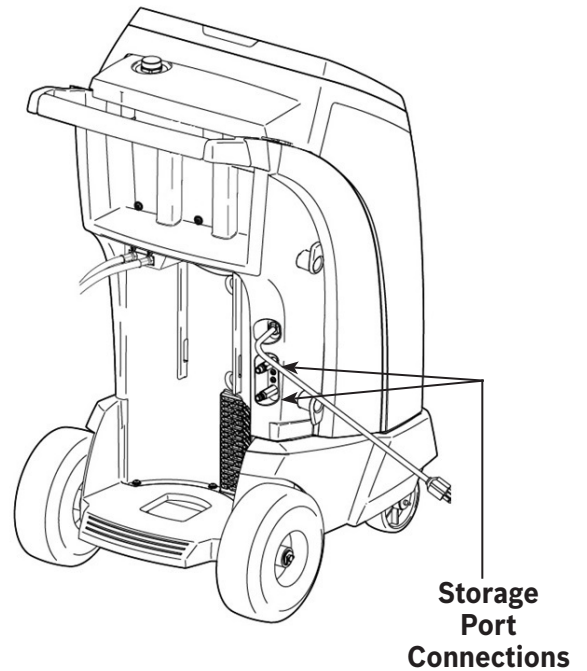

Figure 4
2. Connect the service hoses to the machine's storage port connections as shown in Figure 4.
2. If the system does NOT have an electric compressor with POE oil, select **X** to continue. If the system has an electric compressor with POE oil, select **✓** to flush all residual oil from the hoses. The user will be prompted to “Connect service hoses to storage ports and open coupler valves.” See Figure 4 on page 19. Continuing will begin the process of flushing the hoses. Once complete, select **▶▶** to continue through the Charge process.